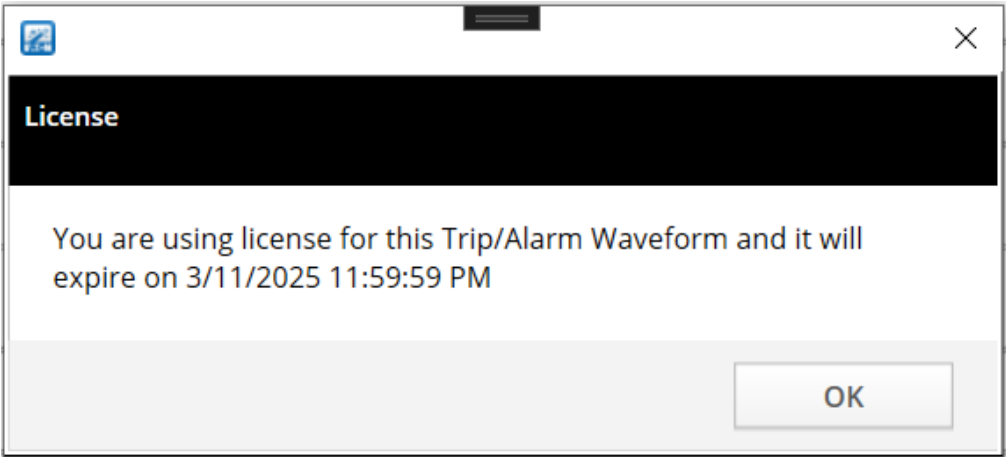
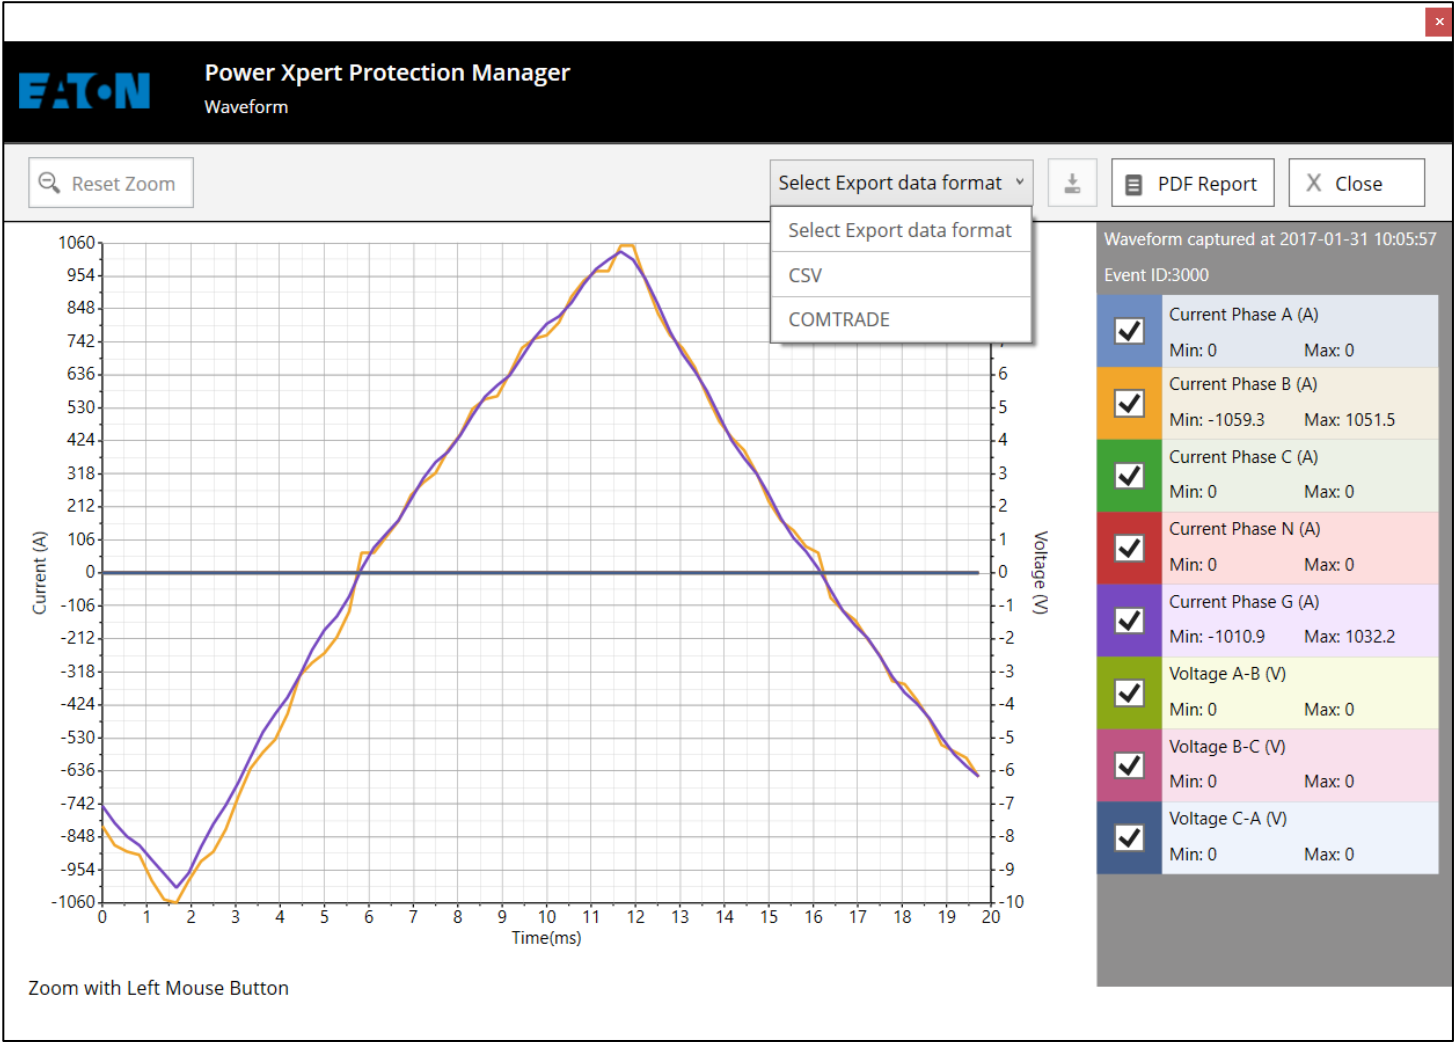
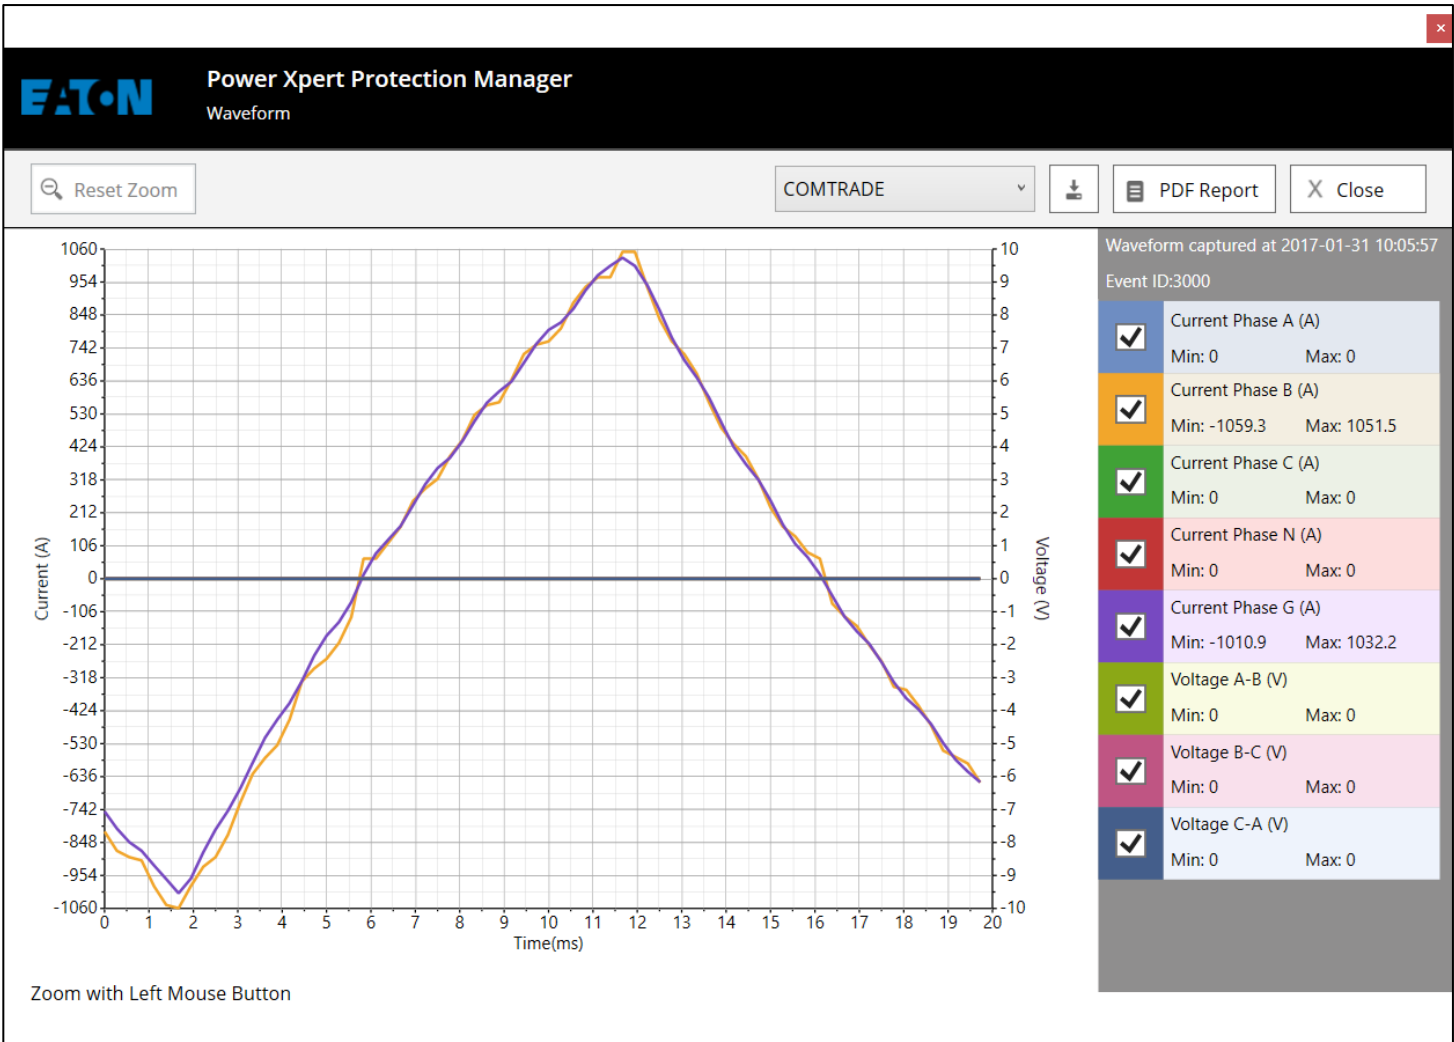

Figure 48: Notification of license usage and its expiry date
Figure 49: Last waveform recorded
Figure 50: Last waveform recorded with COMTRADE format selected
**Last Waveform Recorded** icon is present for the respective Trip/ alarm event for which the waveform is present. On pressing the icon, a prompt asking for the confirmation to utilize the License for the waveform feature pops up (Figure 48: Prompt to confirm the utilization of the License). This License is valid for a particular **session**. After providing the confirmation, the waveform screen is displayed (Figure 49: Last waveform recorded).
User can export waveform data in either CSV or COMTRADE format as shown in Figure 49 and Figure 50.